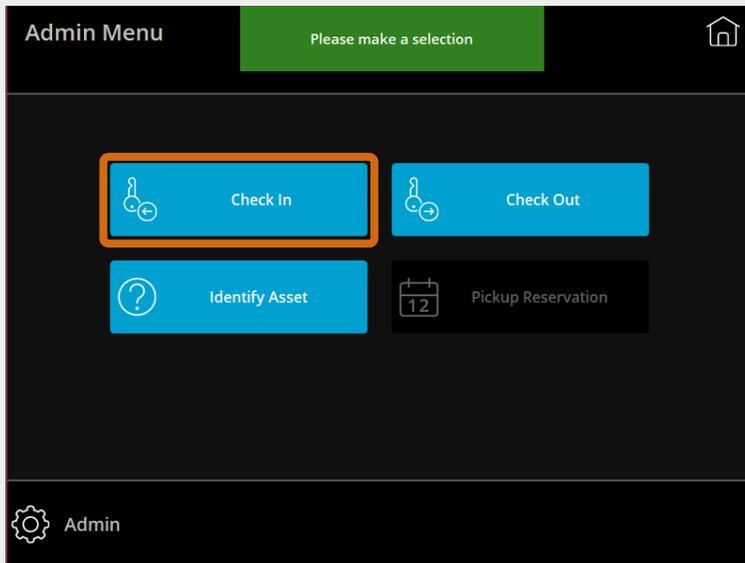

Fig. 33 – Admin Menu with Check In button indicated
2. Press **Check In**, as shown in Fig. 33.